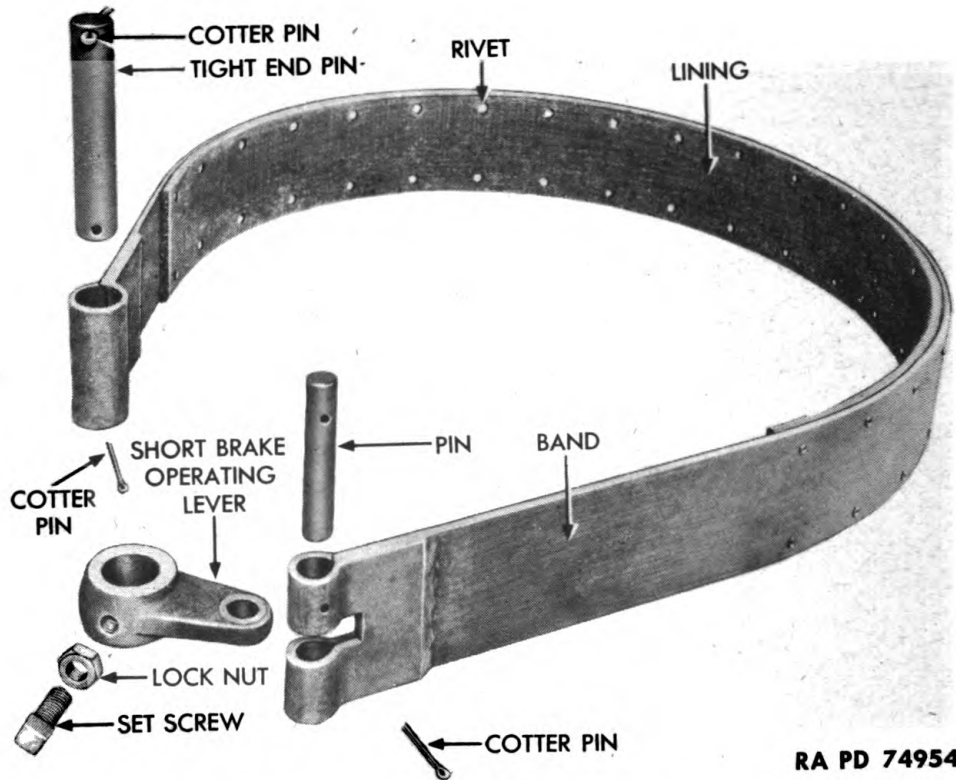

Figure 42 — Brake Band — Disassembled
o. Remove Drum Brake Band Assemblies (fig. 42). Remove cotter pin from tight end pin at end of brake band assembly, and drive pin from brake band and brake anchor. Loosen set screws on two operating shaft collars and short brake operating lever, and pull brake operating shaft with operating lever attached from brake anchor
a. Disassembly (fig. 42). Remove cotter pin which holds tight end pin and short brake operating lever to brake band. Remove lock nut and set screw from end of short brake operating lever.
c. **Assembly (fig. 42).** Install short brake operating lever, and secure to band with tight end pin and cotter pin. Install set screw and lock nut in end of short brake operating lever.